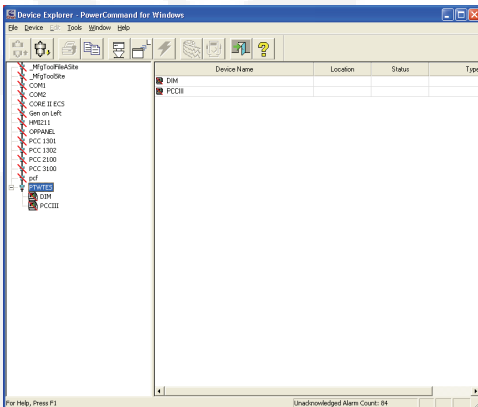

FIGURE 2-38. NETWORK ADDED TO DEVICE LIST
- From the Device Explorer view, double click on the network name (see Figure 2-38).